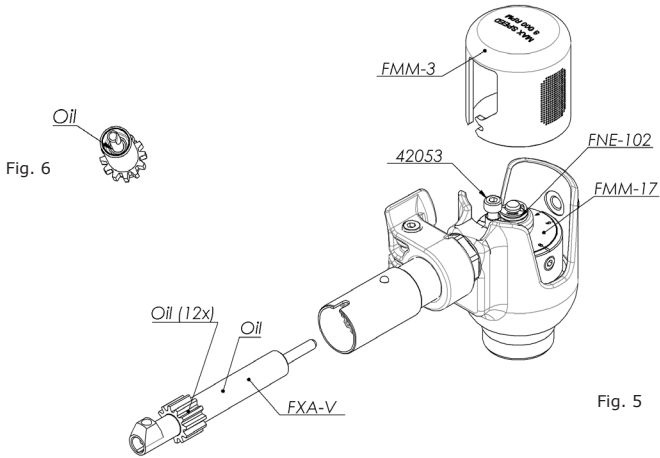

Fig. 5
5. Clean the piston rod and tool holder (FXA-V) carefully with a soft cloth and apply a few drops of lubrication oil, type Diprofil FNA-K or equivalent, according to fig 5 and 6.
See Fig. 5